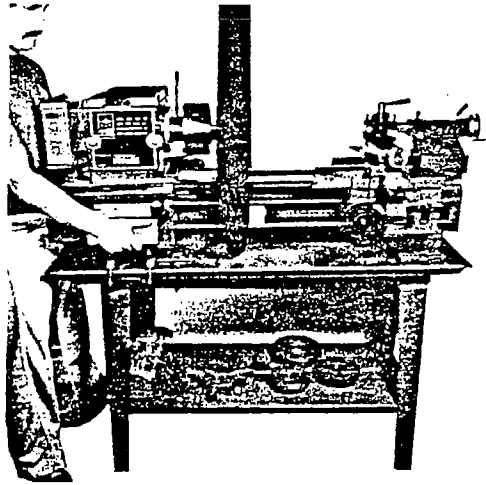

FIGURE 3
- a. Place block of wood between leadscrew and feedrod (Figure 3). The block of wood should be 3" x 2" x 18" and should protrude between the rods.